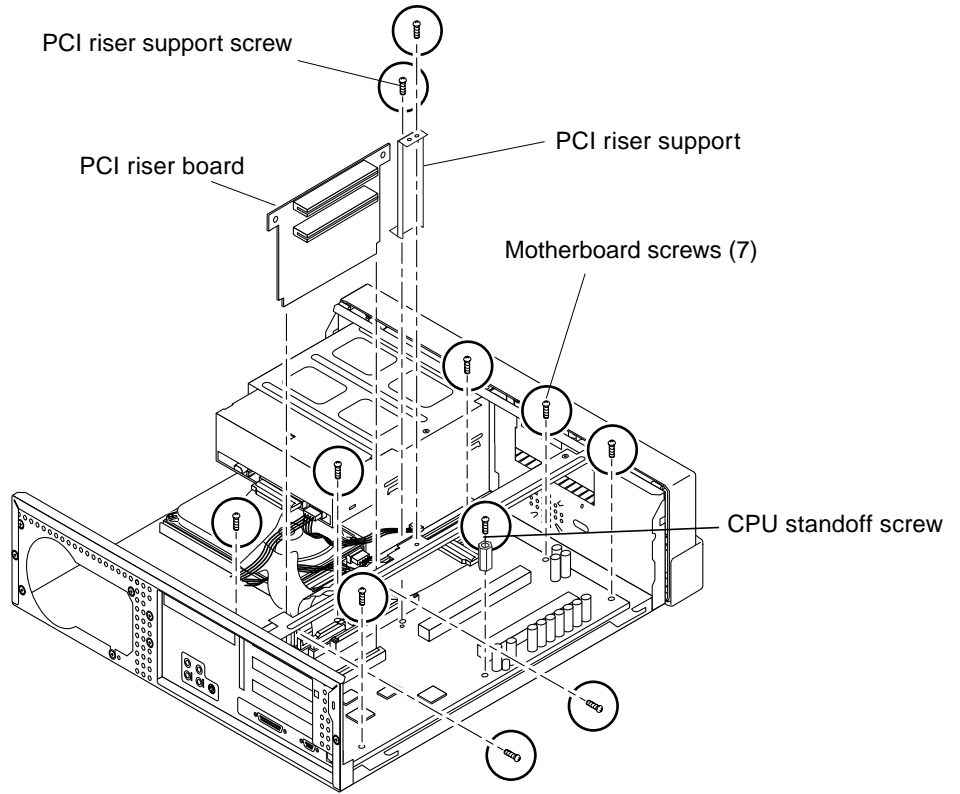
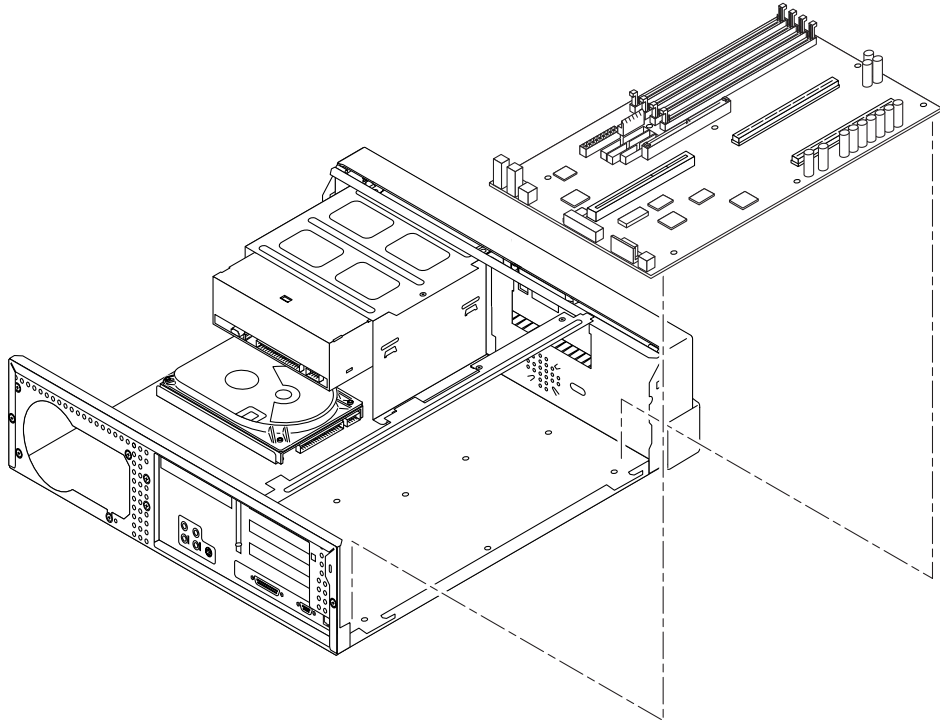

FIGURE 8-7 Removing and Replacing the Motherboard, Part 1
FIGURE 8-8 Removing and Replacing the Motherboard, Part 2
2. **Remove the motherboard as follows (FIGURE 8-7 and FIGURE 8-8):**
- Replace the motherboard as follows (FIGURE 8-7 and FIGURE 8-8):